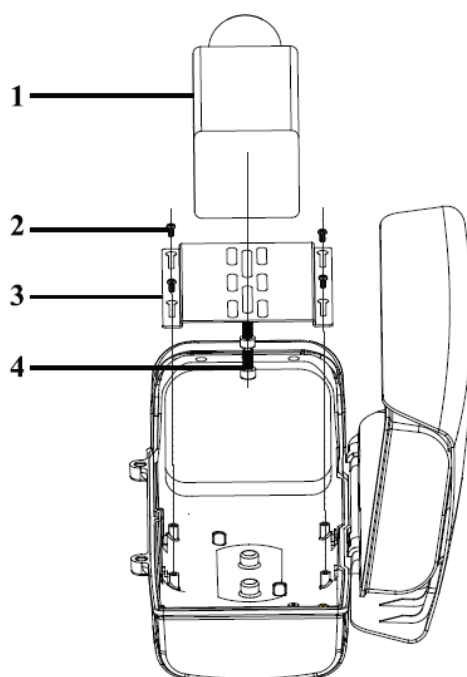

Figure 2-3
Step 3: Secure the camera bracket on the case. See Figure 2-3.